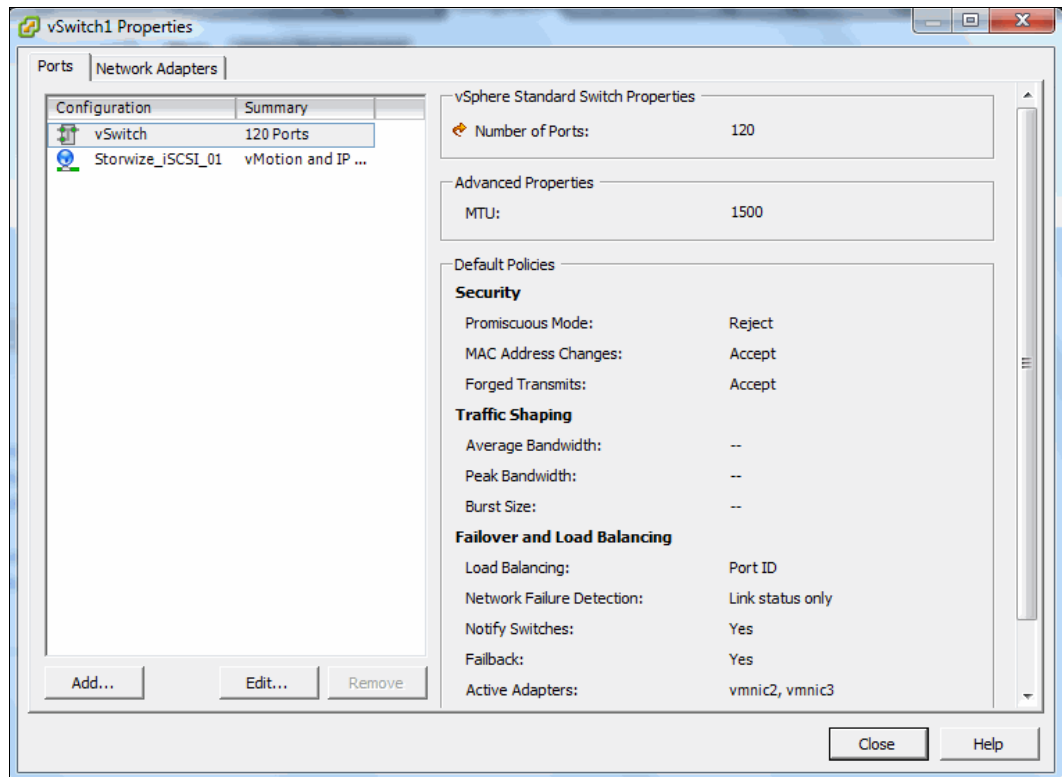

Figure 4-23 Adding another VMkernel port in the vSwitch Properties
10. To add further VMkernel ports to this switch, click **Properties** to open the window shown in Figure 4-23, then click **Add**. This reopens the same wizard you have just gone through, so follow the same steps to add a second VMkernel port.